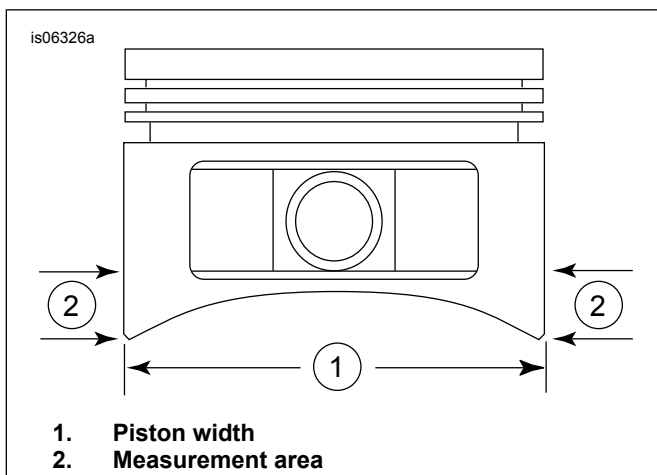

Figure 1. Piston Measurements
- See Figure 1. Measure the piston width (1), 90 degrees horizontally from both sides of the piston pin hole and at 0.465 in. above (2), the lowest portion of the skirt. See Table 2 for piston-to-cylinder fit at this location.